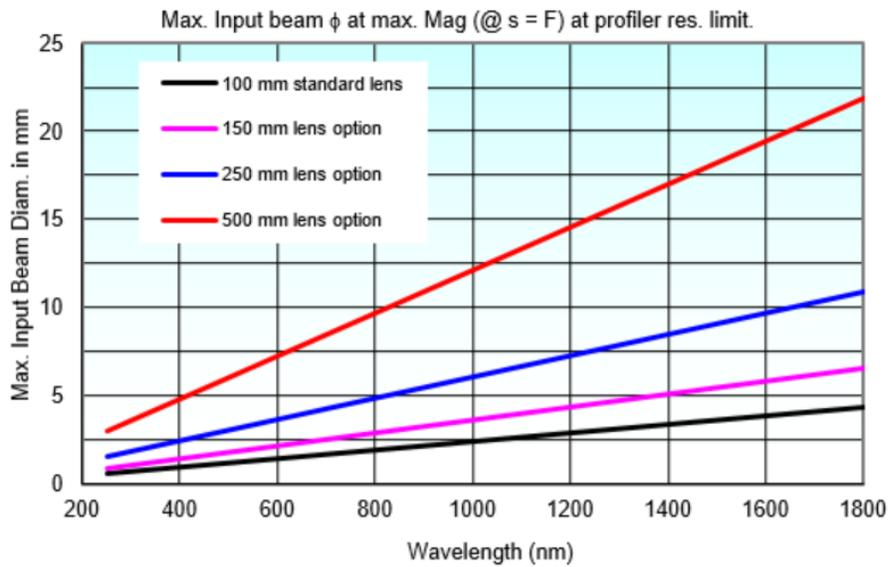

Figure 9.2: Maximum input beam diameter for various wavelengths.
- **Maximum beam diameter:** See Fig. 9.2